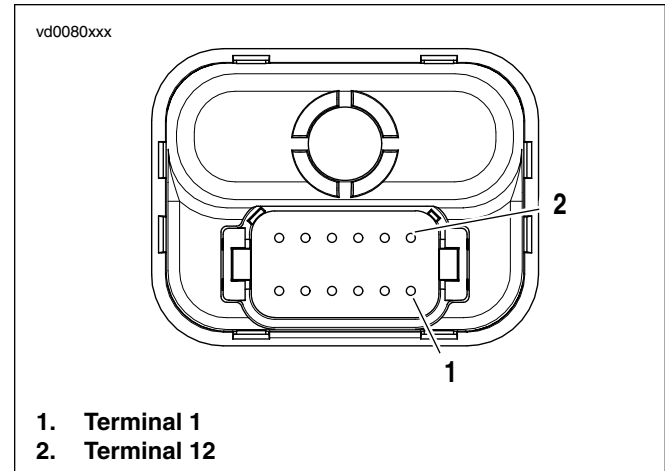

Figure 3-19. TSM/TSSM Connector [30A] Terminals
2. See Figure 3-19. Depress latches on connector [30B].
1. See Figure 3-19. Depress latches on connector [30B].